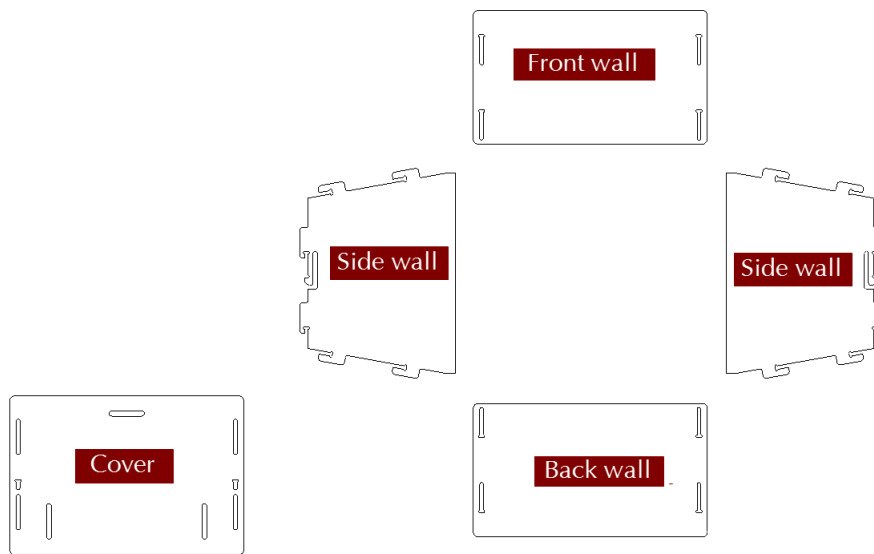
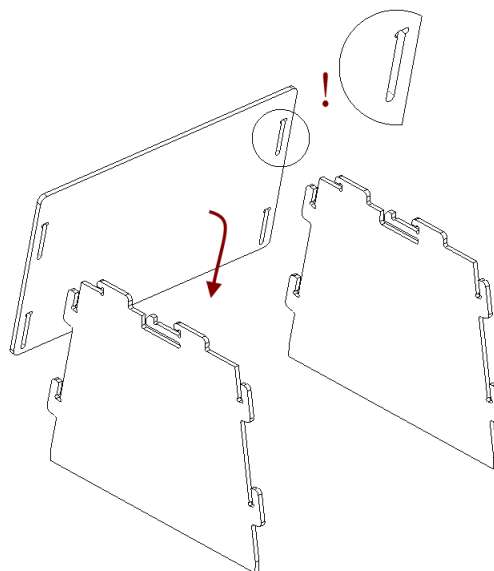
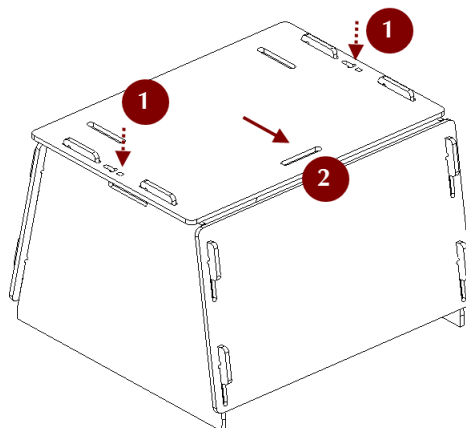

Figure 141: Parts of the scanner stand.
Figure 142: Assembling the front wall.
Figure 145: Latching the cover.
The scanner stand comes unassembled with Artec Spider and consists of five parts (see Figure 141): two side walls, one front and one back wall (these parts are identical, however), and a cover. Before beginning assembly, lay them all out as Figure 141 shows. Then follow these steps:
1. Raise the two side walls to the upright position, as Figure 142 shows. Noting carefully the orientation of the T-shaped slot, install the front wall to the side walls using the two pairs of hooks. Press the front wall and slide it down against the stop. Make sure the three walls are properly aligned with each other.
4. Press your thumbs against the T-shaped holes on the cover and shift it toward the back wall until you hear a click (see Figure 145).
Note: To disassemble the stand, release the detents in the cover's T-shaped slots (see Figure 141) using a thin object like a ballpoint pen. Repeat the assembly steps in reverse order (from Figure 145 to Figure 142), moving the parts in the opposite directions.